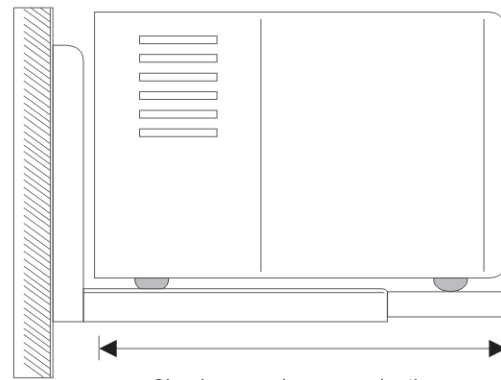

fig. 4
2. Measure the total Depth of your microwave from the Wall Bracket to determine how far to extend the Extension Arms. **See fig. 4.**